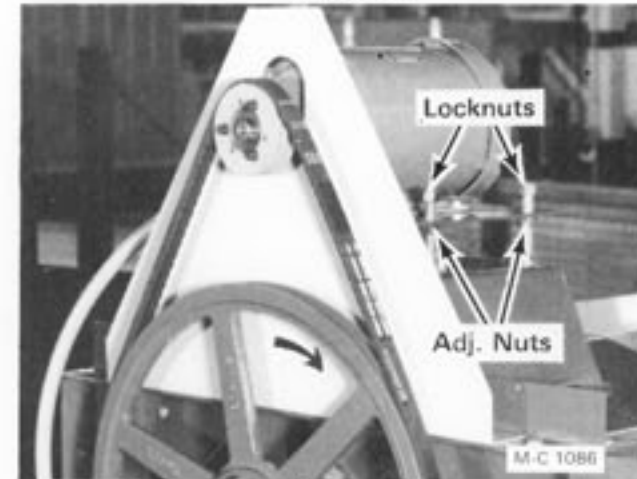

Figure 31
1. Adjust the belt tension by loosening the locknuts and raising the motor mount plate evenly with the four adjusting nuts, then tighten the locknuts, see Figure 31.